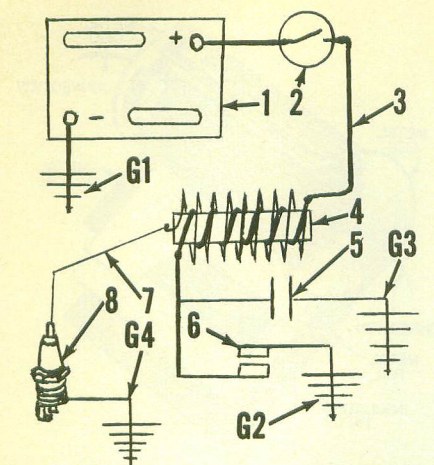

Fig. 1-18—Diagram of a typical battery ignition system. Refer to text for principles of operation.
In the battery system, the primary circuit consists of the battery, ignition switch, primary windings, contact points, condenser, and the necessary connecting wiring as shown at (3—Fig. 1-18). When the ignition switch (2) and contact points (6) are closed, the primary circuit (3), primary windings of coil (4) and the closed contact points (6), the ground connections (G1 at battery and G2 at points) plus the engine casting or frame, complete the circuit. As the current flows, a magnetic field is built up in the soft iron laminations of coil (4), which is surrounded by the primary and secondary windings. When contact points (6) open to break the circuit, the current tries to flow through the path of least resistance which is the condenser (5) until condenser capacity is reached; then, the primary current ceases to flow and the magnetic field starts to collapse. This collapse is hastened by the condenser, which tries to discharge its stored energy backward through the primary circuit. When the magnetic field collapses, extremely high voltage is induced in the coil secondary windings which flows through secondary circuit (7) to spark plug (8), where it jumps the plug gap and is dissipated in the engine frame through ground (G4).
In any spark ignition engine, the spark plug provides the means for igniting the compressed fuel-air mixture in the cylinder. Before an electric charge can move across an air gap, the intervening air must be charged with electricity, or ionized. The spark plug gap becomes more easily ionized if the spark plug ground (G4—Fig. 1-18) is of negative polarity. If the spark plug is properly gapped and the system is not shorted, not more than 7,000 volts may be required to initiate a spark. Higher voltage is required as the spark plug warms up, or if compression pressures or the distance of the air gap is increased. Compression pressures are highest at full throttle and relatively slow engine speeds, therefore, high voltage requirements or a lack of available secondary voltage most often shows up as a miss during maximum acceleration from a slow engine speed. There are many different types and sizes of spark plugs which are designed for a number of specific requirements.